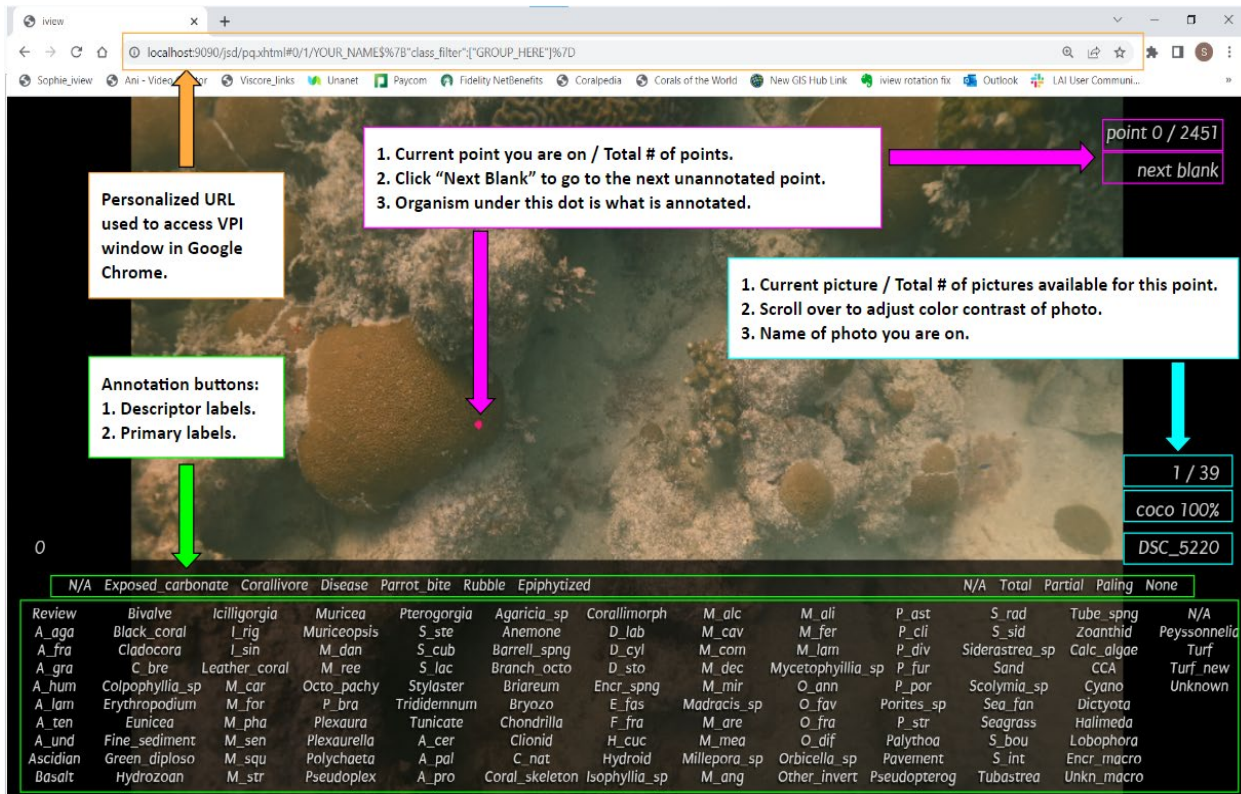

Figure 85. Overview of VPI browser window, with raw image and taxonomic labels displayed in browser window.
A browser window is used to conduct VPI in conjunction with the 3D model concurrently open in the Viscore Viewer window. The controls for viewing raw images and annotating sample points are all conducted in the browser window accessed through the VPI URL. Controls for conducting VPI are covered in Figure 85, and instructions are further outlined in the section below.
- A list of buttons with taxonomic groupings and a raw photo associated with the sampled point on the model will be displayed in the browser window (Figure 85).
1. Flip through the first couple of photos (usually 5–10 will suffice unless a better view is needed), and annotate what the pink point lands on by double-clicking the button that corresponds to the benthic organism identified (these buttons are at the bottom of the browser screen; Figure 85). Labels displayed in the browser are abbreviated and the full label can be shown by hovering the mouse over a given label.